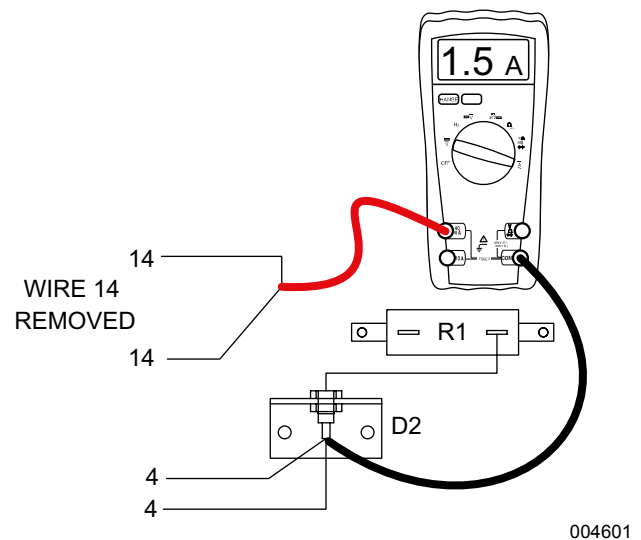

Figure 4-8. Measuring Amp Draw
22. See Figure 4-8. Connect the positive meter test lead to wire 14.